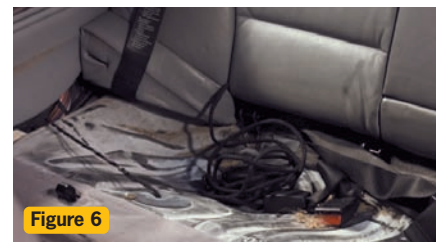

Figure 6
**7.** Route the harness through the area under the seat cushion, over to the passenger side trim panel (fig. 6). Push the harness up under the lower edge of the trim panel and work it down and under the door sill plastic trim panel.